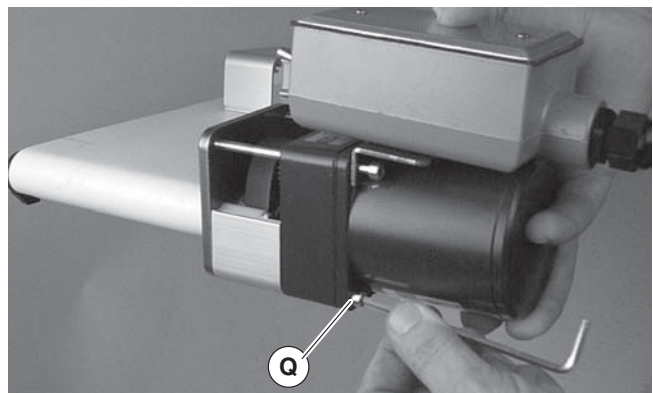

Figure 7
9. Insert gearmotor drive pulley into timing belt. Mount assembly with two (2) bottom screws (Figure 7, item Q). Tighten to 45 in-lb (5 Nm).